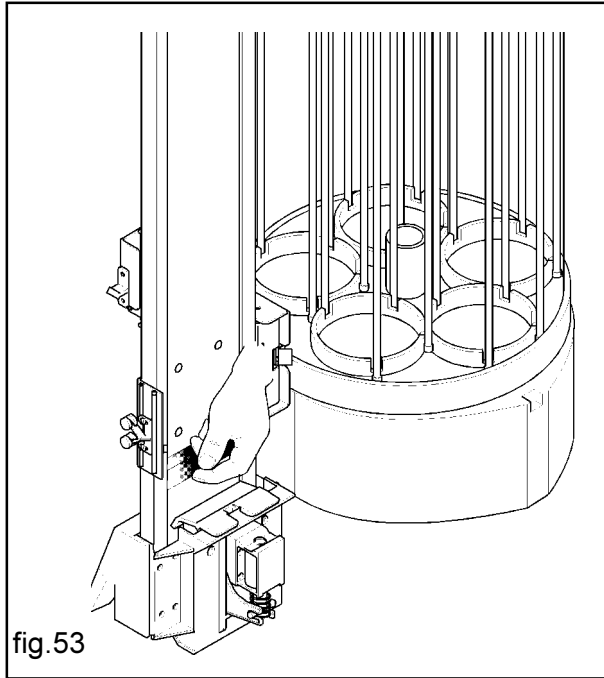

fig.53
- Remove the metal counter-weight from the spoon dispensing box (fig.53).